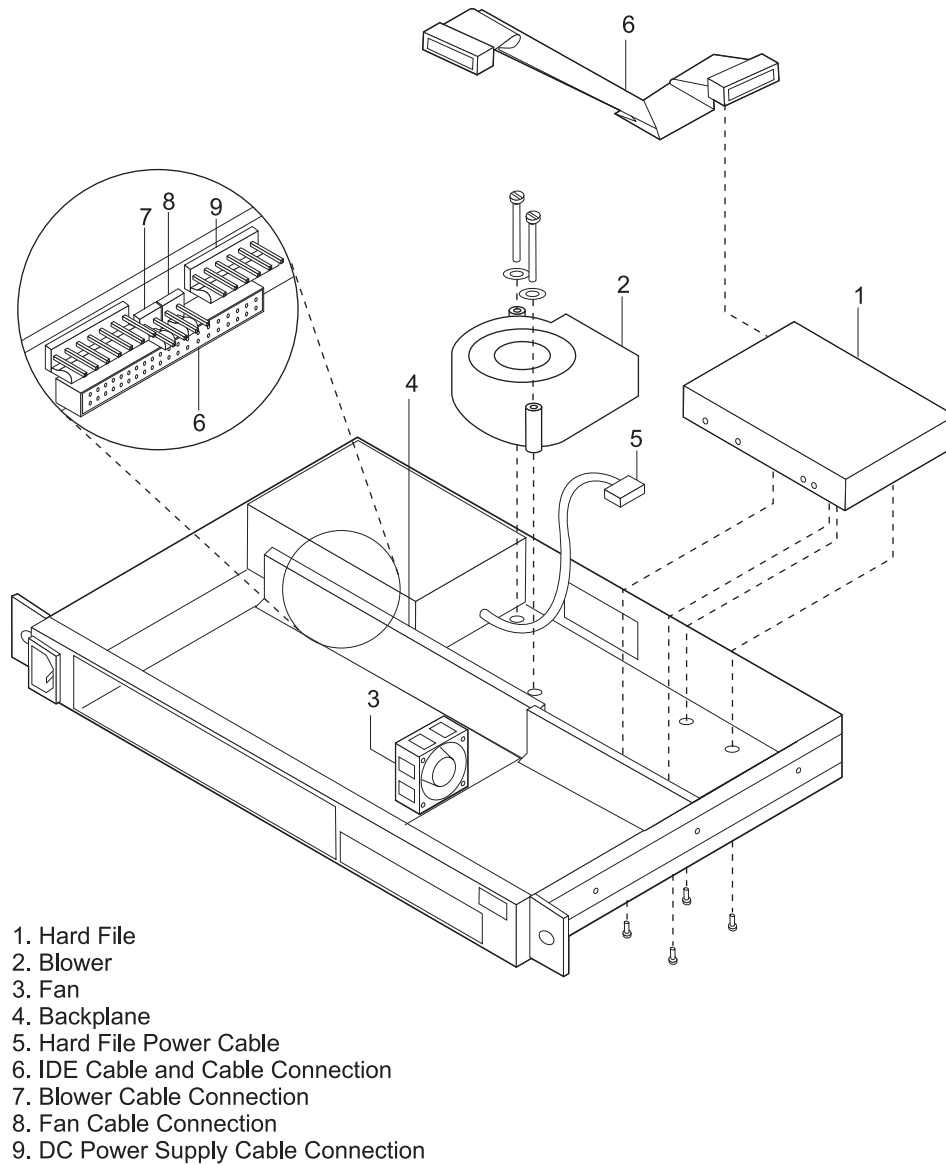

Figure 2-14. Model 1xx Chassis with a Hard Drive
10. Route the hard drive IDE (flat ribbon) cable as shown in Figure 2-14 on page 2-28.